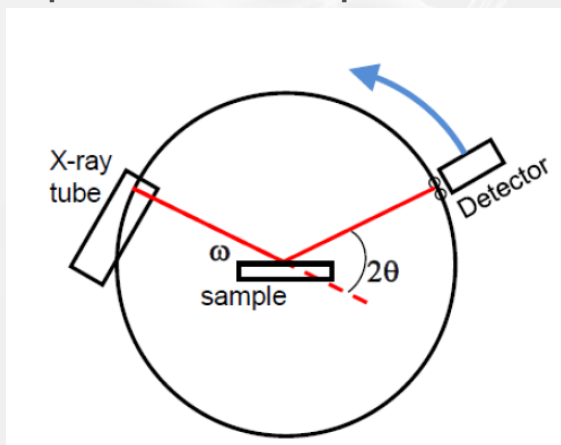

Figure 2: A schematic illustration of operations of XRD main components
- The generated X-rays are directed towards the sample, and the diffracted rays are collected by the detector (See Figures 2 & 3).